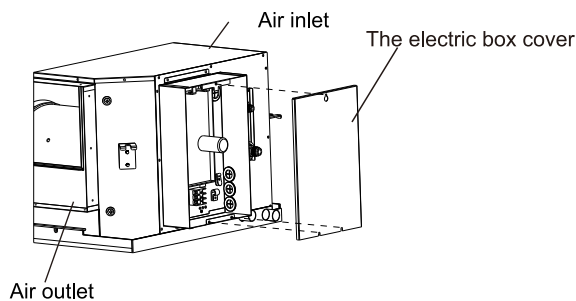

Fig.8.1 Remove the screws on the control box
- (1) As shown in Fig.8.1, remove the screws on the control box.